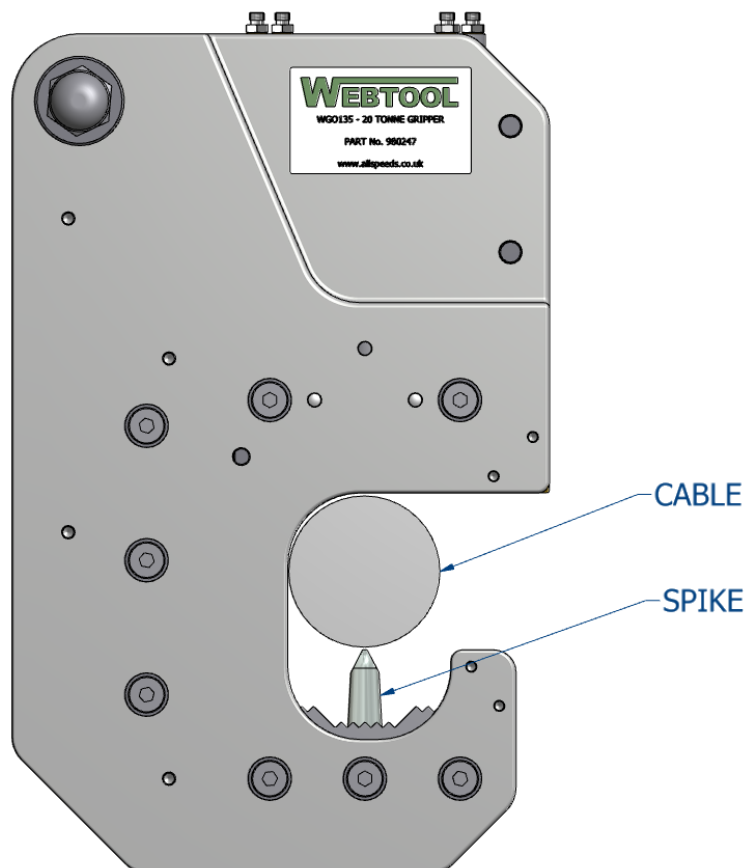

Figure 3 – Cable correctly positioned inside mouth of tool
2. Deploy the tool and position so that the wire rope is located in the mouth of the gripper, touching the back edge of the throat, as shown in fig 3 below.